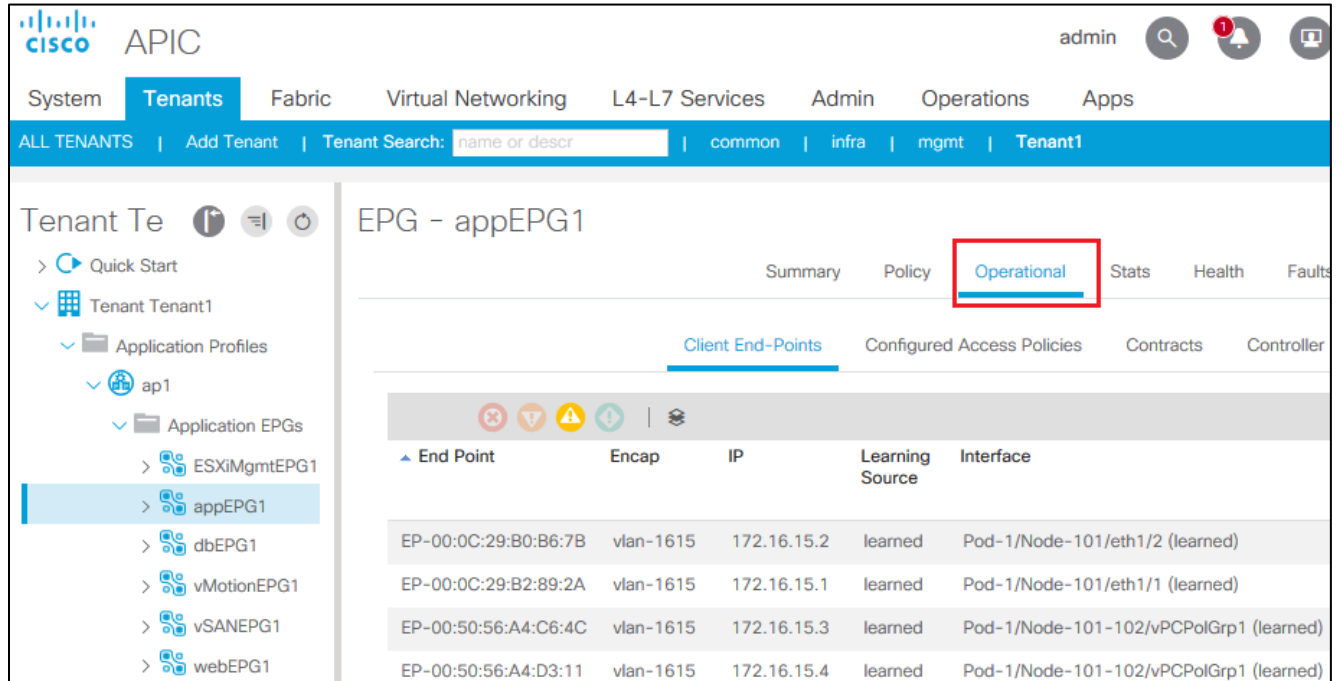

Figure 82 Cisco ACI endpoints in appEPG1
2. Click the **Operational** tab in the navigation window as shown in Figure 82.